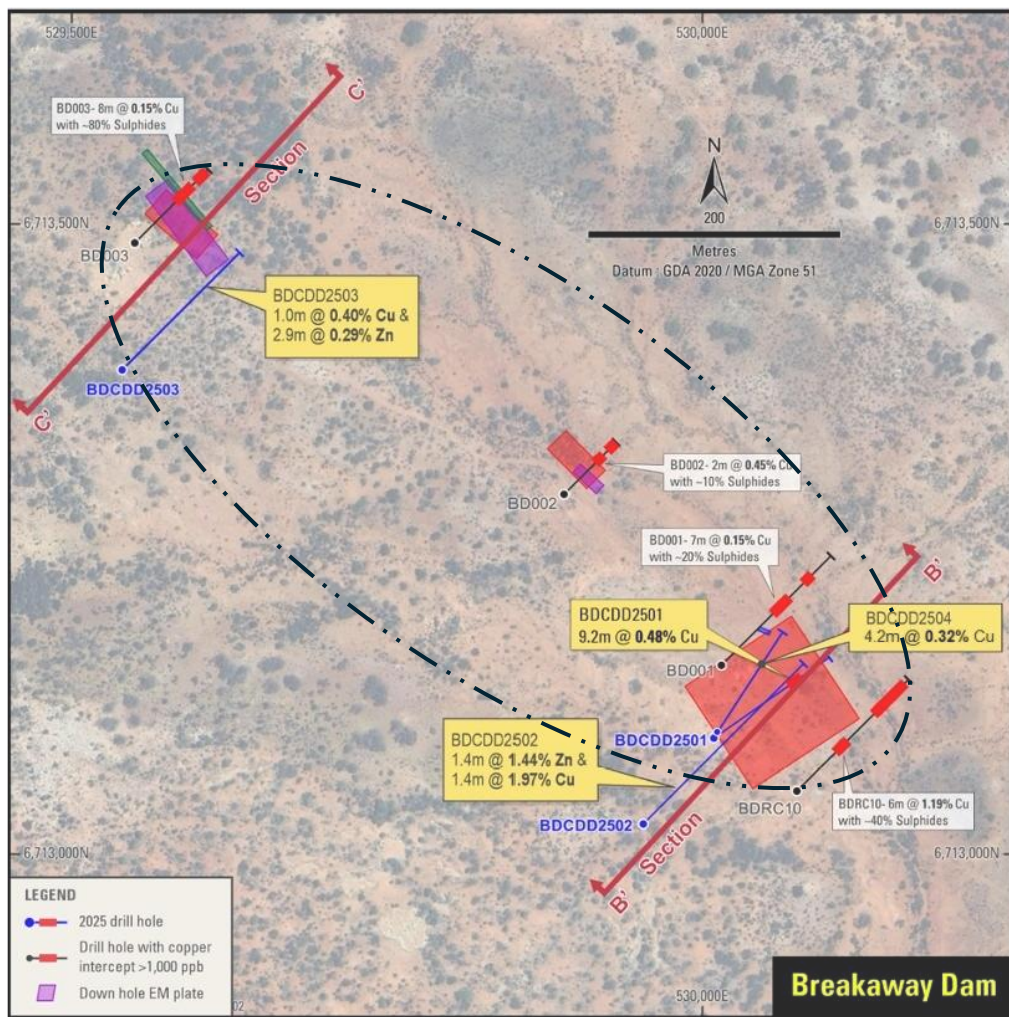

Figure 2. Plan view of BDC Central Zone target drill area and previous drill holes and associated results¹.
- Targeted drilling of untested high-conductance EM plates proximal to BDCDD2503 (figure 2), prioritising the strongest and least tested conductors
- ~2,000 metres of systematic RC drilling across the BDC Central Zone (figure 2) to assess grade continuity beyond current EM-defined targets